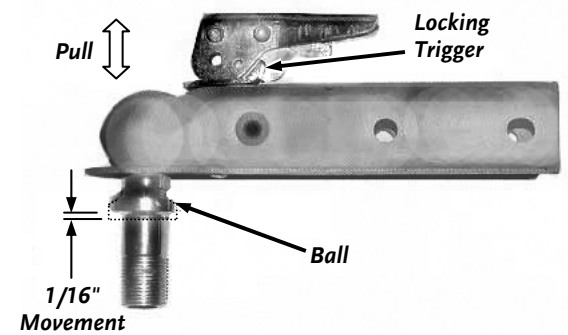

Figure 34
- Place the proper size ball in the socket of the coupler and close the latch assembly (**Figure 34**). Verify that the locking trigger is properly engaged in its detent.